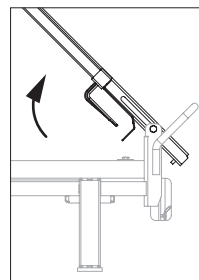
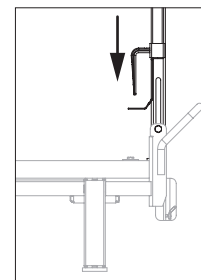

Fig. A13.01b
Fig. A13.01c
2. Fold guardrail (32.1) upwards until the guardrail is at right-angles to the deck. (Fig. A13.01b + Fig. A13.01c)